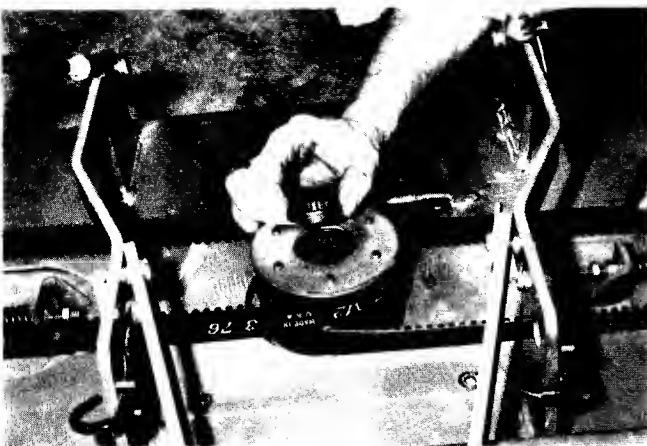

FIG. 10.18--INSTALLING SPACER BETWEEN GEAR BOX AND PULLEY
24. Install spacer, with chamfer up, on pulley as shown in Fig. 10.18 and install gearbox.